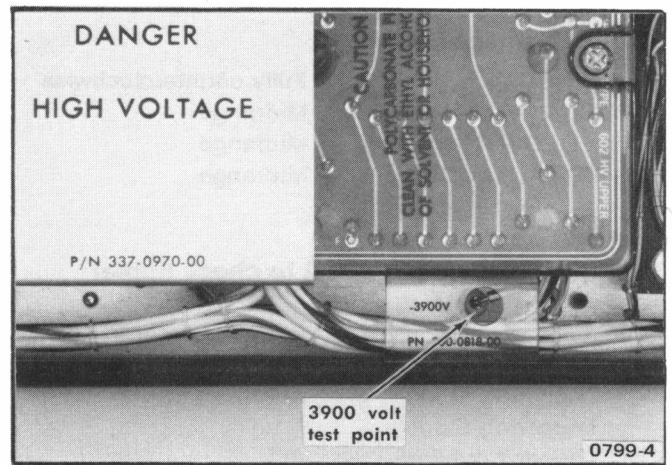

Fig. 5-2. Location of -3900 volt test point.
a. Connect a dc voltmeter between the -3900 volt test point and chassis ground (Fig. 5-2).